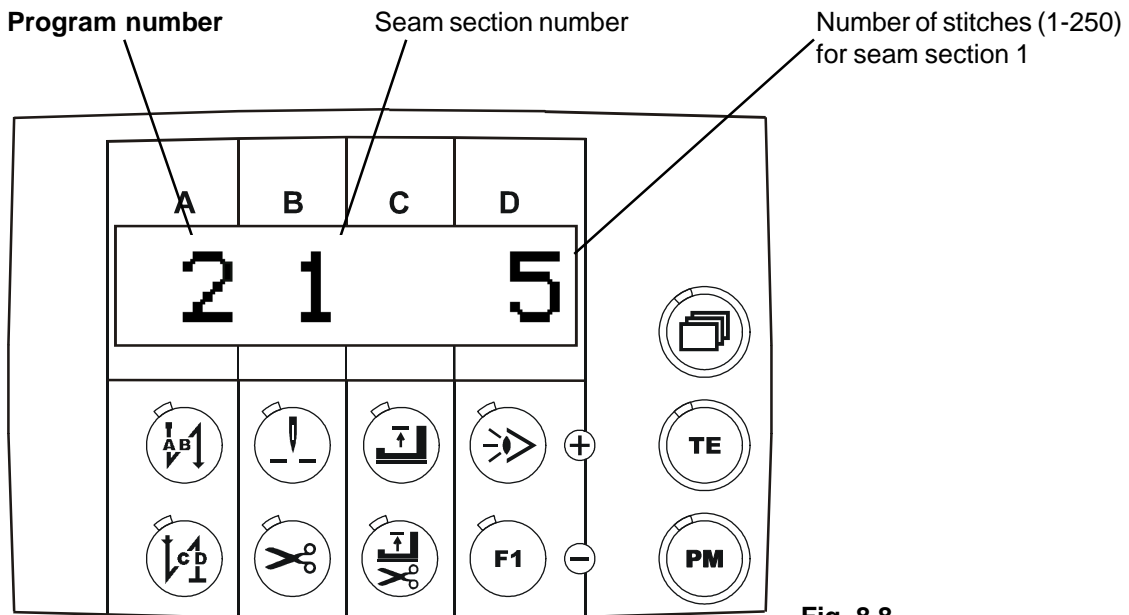

Fig. 8.8
6.8 Press the **paging key** until the display **Fig.8.8** appears